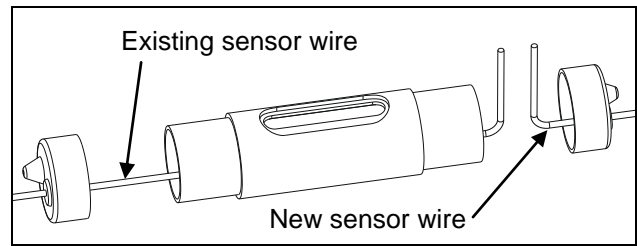

Figure 3
Step 6: (See Figure 3)
Insert the new sensor wire through the hole in one of the end caps and the existing sensor wire (coming in thru the secondary base) through the hole in the other end cap and slide the end caps out of the way. Slide barrel and sleeve onto the sensor wire and slide out of the way as shown in Figure 3.